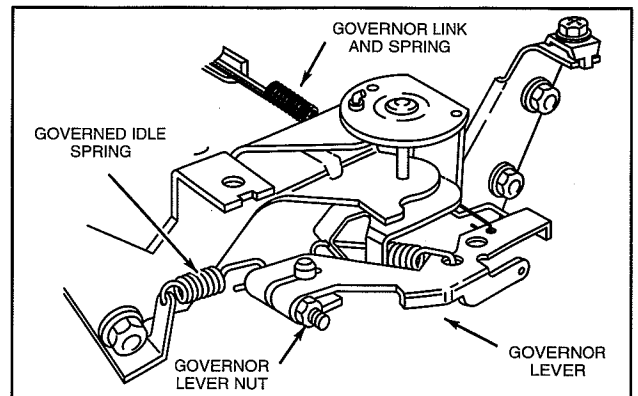

Fig. 21 – Remove Governor Lever
- a. Remove governor lever from shaft, Fig. 21.